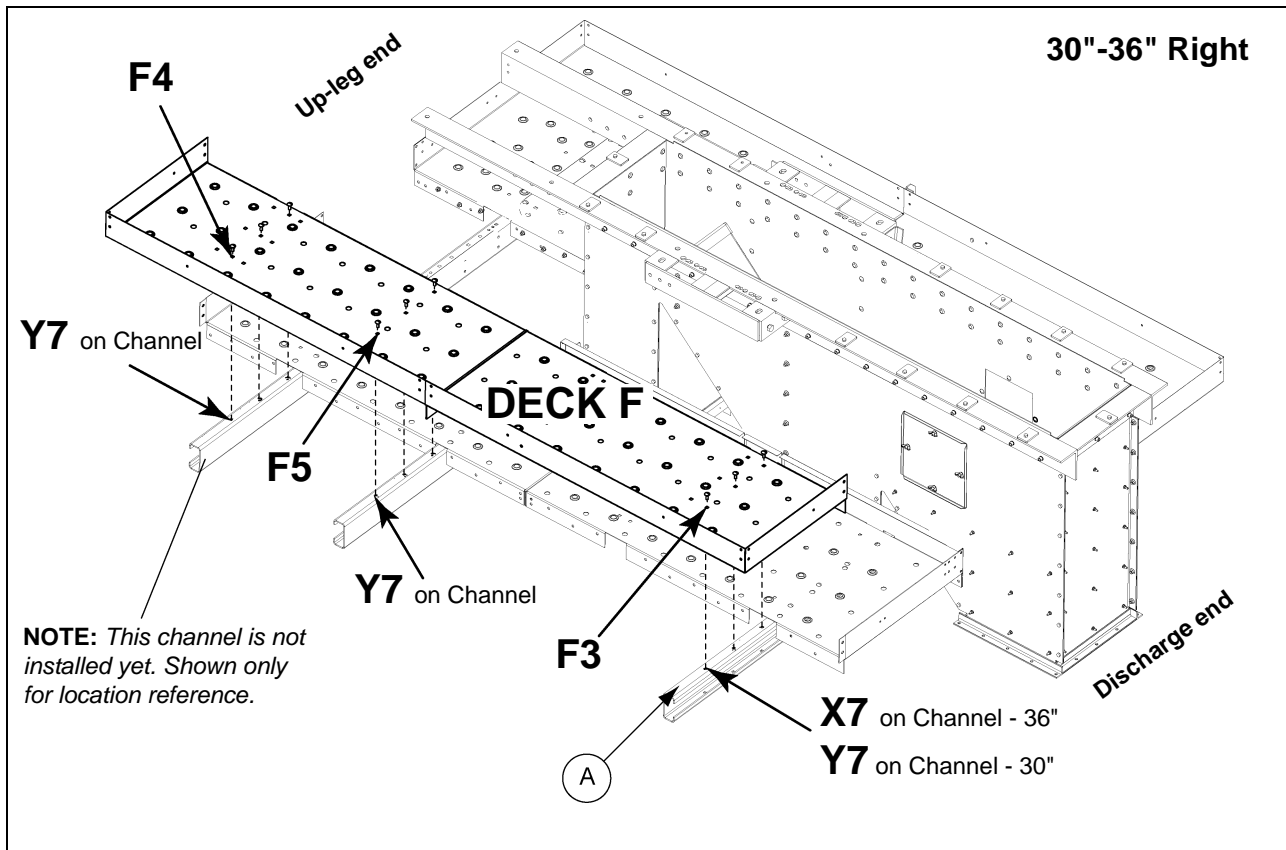

Figure 8L Deck F to Cross Deck Support Channel
1. Locate pre-assembled Deck F. This deck consists of two (2) planks.
2. Orient Deck F with hole **F3** at the discharge end of the lower head and **F5** at the up-leg end. *(See Figure 8L.)*
- a. At the **drive side** - channel hole **Y7** on the cross deck support channel to deck hole **F4**. (See Figure 8L on Page 62.)